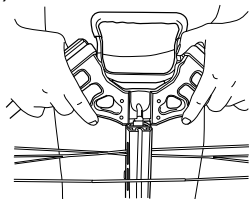

Figure 8
- 12 Slide the bow unit into place onto the barrel making sure the cables and cable slide are positioned in the cable slot in the barrel. The crossbow string should be resting on the top surface of the barrel and the cable slide will be held captive in the cable slot (See Figure 8).